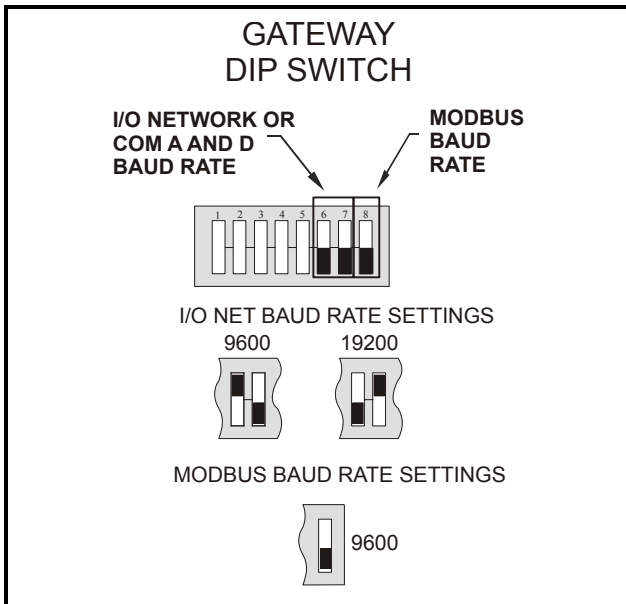

Figure 4-8 - Dip Switch Setting for Numbering Gateway
Dip switches 6 and 7 (*Figure 4-8*) control the baud rate at which the Gateway communicates with the site controller on the RS485 Network. These switches must be set to the same baud rate setting as the E2, Einstein, or REFLECS (usually 9600 baud).
Dip switch 8 controls the baud rate on the MODBUS network. Since the PerformanceAlert™ module communicates at 9600 baud only, set this switch to the DOWN position to select 9600 baud (see *Figure 4-8*).
8. The final screen under the GW SETUP menu option is a read-only status screen showing the configuration of the I/O and MODBUS networks. The first two lines, IONET ADDRESS and IONET BAUD, show the board number and baud rate as set by the Gateway board's DIP switches. The last two lines, MOD BAUD and MOD PARITY, will always read 9600 and NONE respectively, since the Gateway's MODBUS port needs to be set to 9600 baud with no parity. If MOD BAUD reads 19200, the Gateway dip switch is set wrong and must be switched to the DOWN position (see Figure 4-8 on page 8)